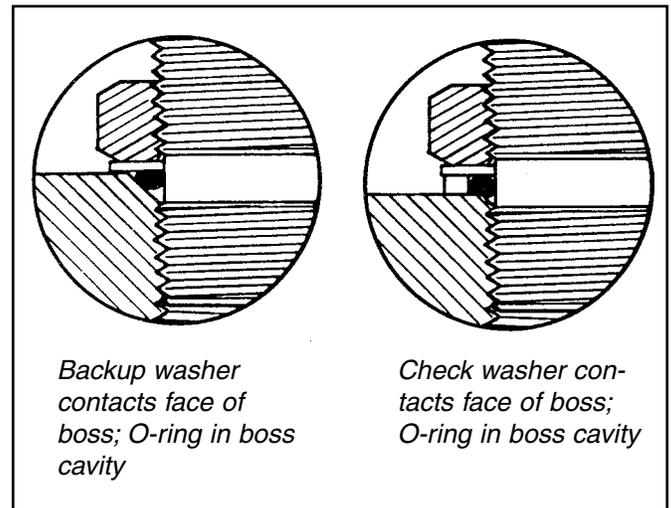

Figure 5.10 Tighten Locknut to Force O-ring Securely into Position
4. To secure the position of the fitting, unscrew the fitting up to one full turn. Hold the fitting in the desired position; tighten the locknut so the back-up washer (or the check washer) contacts the face of the boss. The tightening must force the O-ring into the boss cavity. See Figure 5.10.